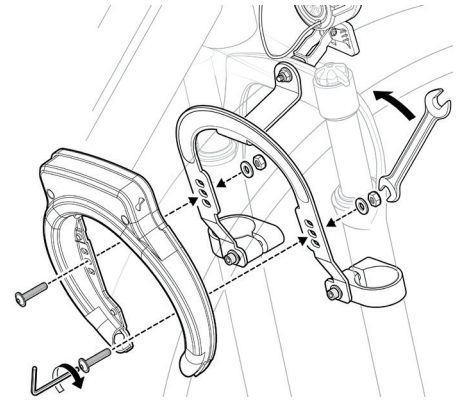

Figure 3 Install fat tire wheel lock.
- a. Position the fat tire wheel lock against the lock mount so that the middle mounting points are lined up (see Figure 3). If you have a larger tire and need more clearance, you can use a different mounting position as needed. Make sure the wheel lock sits flat against the lock mount.